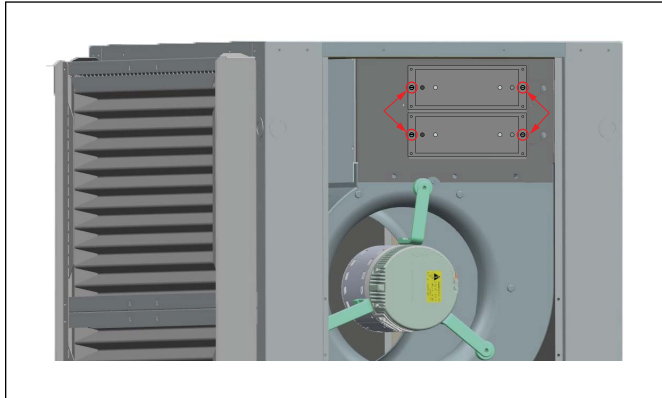

Figure 19
2. On the unit, unscrew and remove both heater collar cover plates (figures 19 & 20).